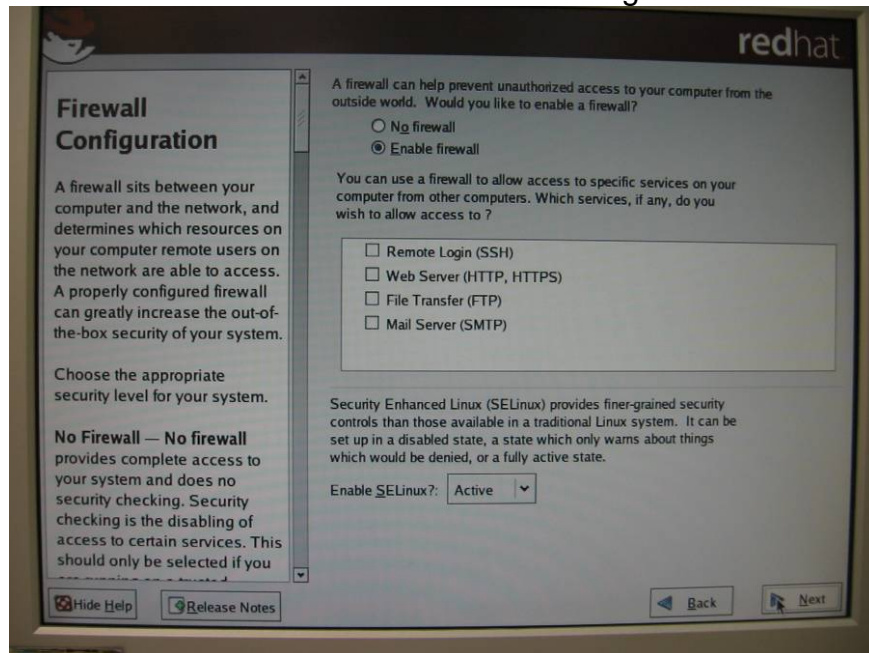

Figure 5-14 Firewall Configuration
3. No changes for Memory Configuration. (Figure 5-14)